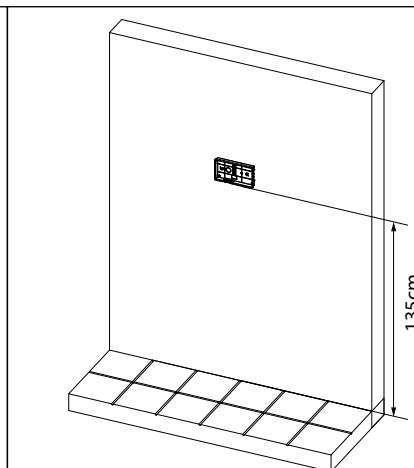
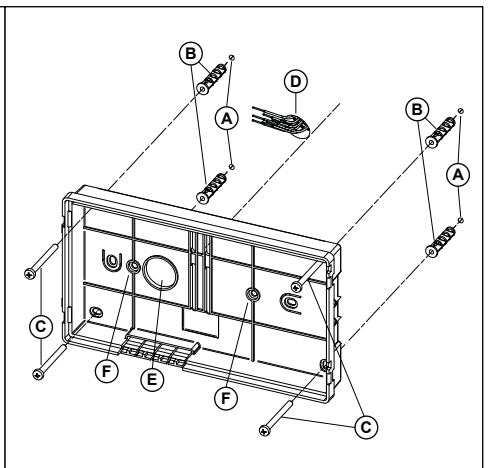

Fig. 2
Fig. 3
2. Put the base of the unit on the wall at approx 135cm from the finished floor to match the points for the fixing holes "A" (**Fig. 2**) remembering that the wires "D" (**Fig. 3**) must be fed through the large hole "E" (**Fig. 3**). If you use the flush mounting box 503, embed it into the wall vertically at approx. 140cm from the finished floor and the base.
3. Following **Fig. 3**, make the holes "A", insert the wall plugs "B" and fix the base with the screws "C" feeding the wires "D" through the hole "E". If you have used the box 503, fix the base to the wall through the holes "F" using the screws "C".